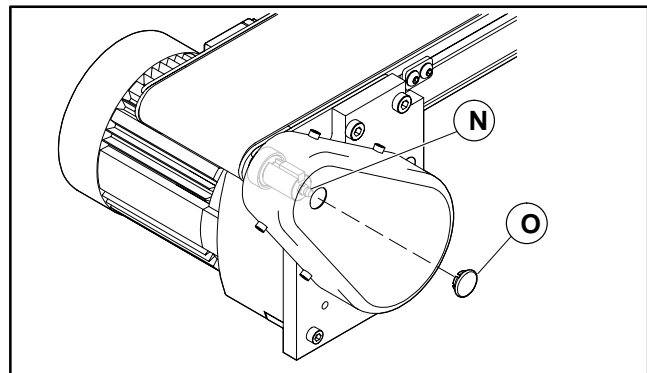

Figure 11: End Drive with Bottom Mounting Package
1. On 3" (70 mm) and wider conveyors, lubricate the pulley bearing on the drive side through the outboard drive shaft grease fitting (N of Figure 11).